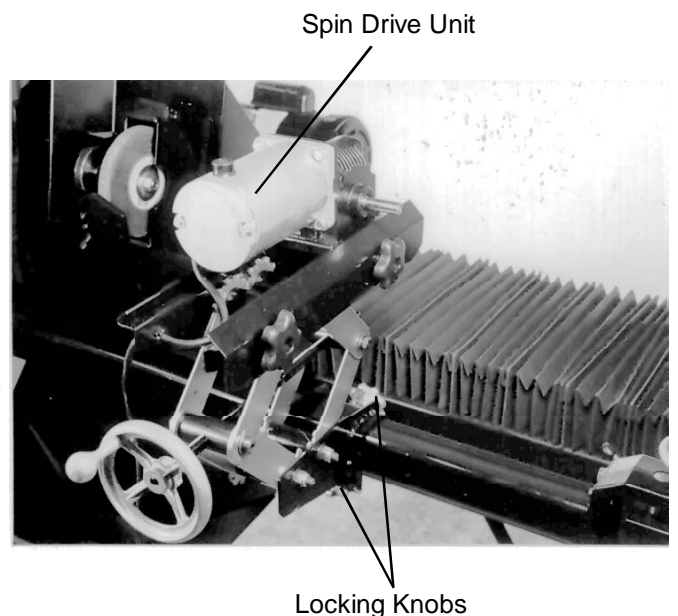

FIG. 2
Remove the spin drive from the left side and turn it around and mount it on the right hand side of the square mounting bar when facing the back of the machine and lock in place with the two (2) locking knobs. See FIG. 2.